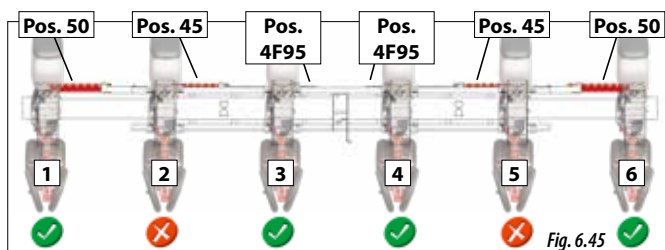

Fig. 6.45
- 1- Exclude the units No. 2 and 5 (Fig. 6.45), see section 6.7 EXCLUDING A METERING UNIT.